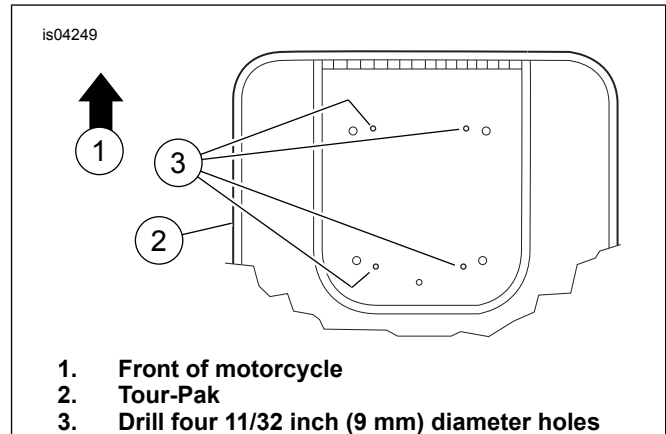

Figure 1. Drill Attachment Hole Locations in Tour-Pak
2. If holes ARE NOT pre-drilled in the floor of the luggage, see Figure 1. To prevent damage to the leather while drilling, place blocks of wood underneath the Tour-Pak luggage at the drilling sites. Use the four inboard holes (3) in the metal base of the luggage (2) as a guide. Carefully drill four 9 mm (11/32 in) holes through the floor of the luggage.